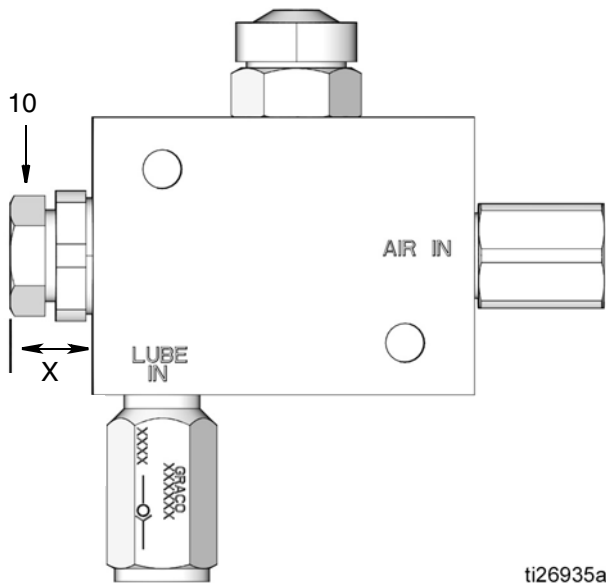

FIG. 7
4. Measure and note the distance/location (X) (FIG. 7) of the adjustment screw (10) to ensure it is set to the same distance/location during reassembly.